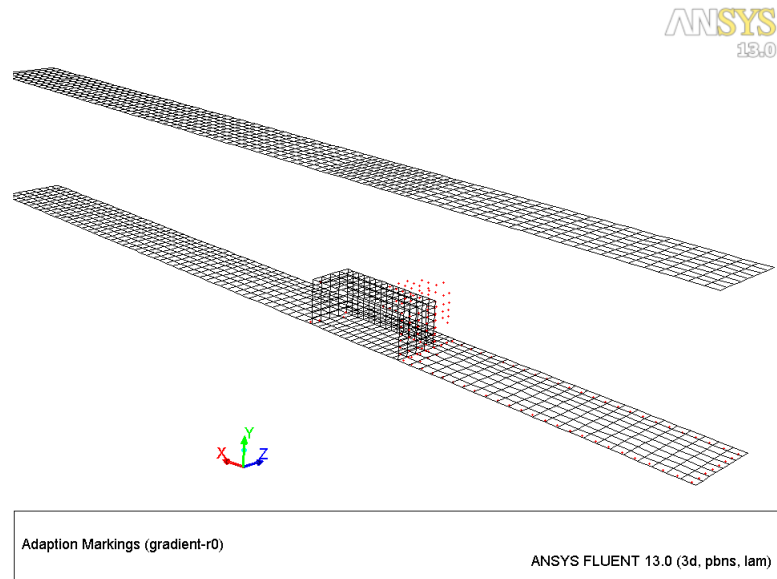

Figure 8: Cells Marked (approx. 150) for Pressure Gradient Adaption
- (f) View the cells marked for pressure gradient adaption (Figure 8).
Figure 8 shows the cells marked for pressure gradient adaption. These cells are concentrated on the front face of the block, where the static pressure is changing abruptly due to stagnation and change in the direction of the air flow.